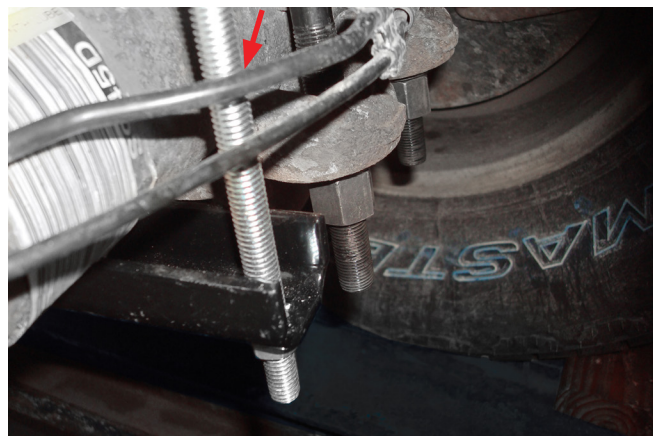

Fig. 24
6. Do the same for the brake lines behind the axle, make sure there is enough clearance between the carriage bolt and the brake line. Pull the line away if it is hitting on the carriage bolt (Fig. 24).